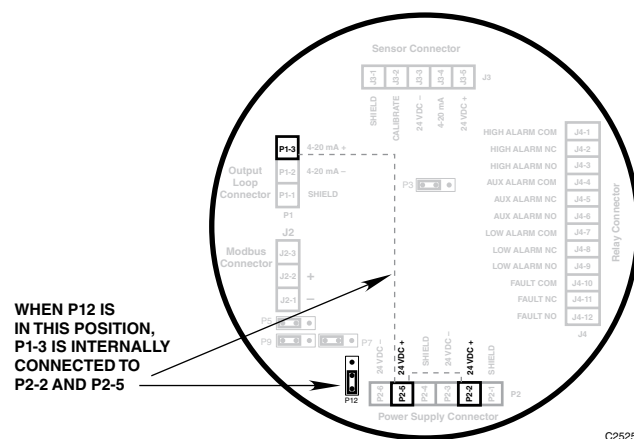

Figure 4—Position of Jumper P12 for Non-Isolated 4-20 mA Loop Output
- For a non-isolated 4-20 mA loop, set jumper plug as shown in Figure 4. This applies +24 Vdc to P1-3 via an internal connection to terminals P2-2 and P2-5.
Figure 4 shows jumper plug P12 positioned to power the 4-20 mA loop from the main power source (non-isolated output).